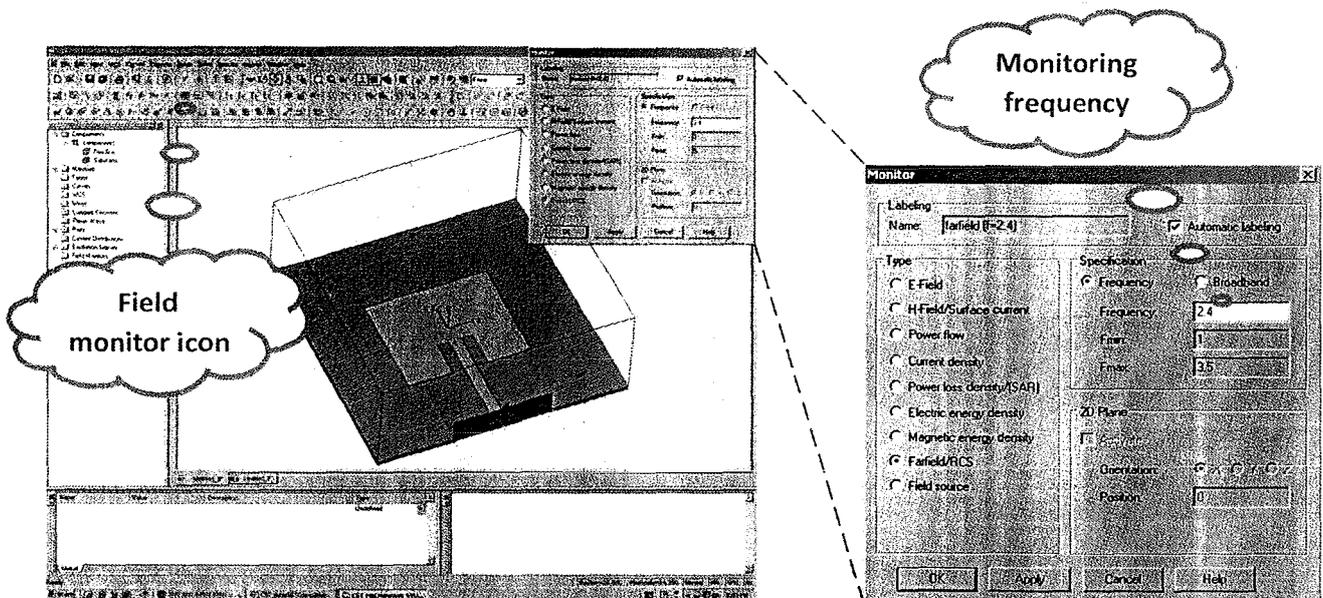

Fig.21 Adding radiation pattern(s) and surface current to the simulation results
- b. From Monitor window select *Farfield/RCS* for plotting the radiation pattern and type the monitoring frequency (in this example it is 2.4 GHz) then click apply as shown in Fig.21